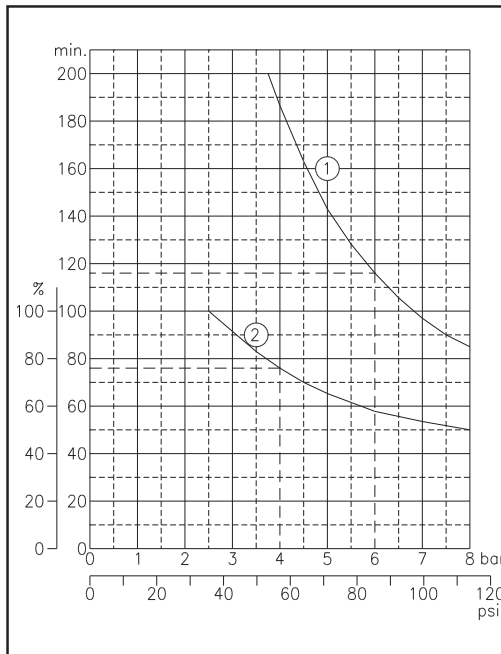

Fig.5
- Curve n°1 (fig.5) indicates the length of continuous running at varying pressures, until the overload protector switches off the motor (at approx. 115°C oil temperature-measured from 20°C start point). Example: 6 bar = 116 minutes.